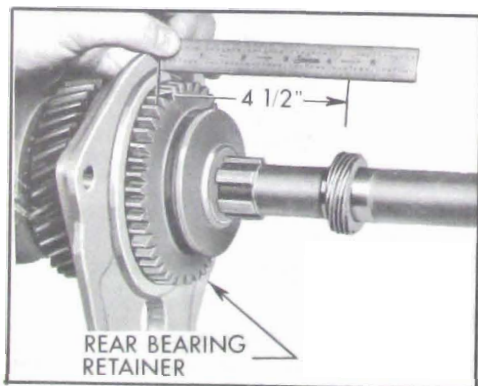

Figure 4-60—Speedometer Gear Location
13. Press speedometer drive gear onto the mainshaft, using a J-8853, press plate. (See Figure 4-59). Position the speedometer gear to get a measurement of 4-1/2" from the center of the gear to the flat surface of the rear bearing retainer. (See Figure 4-60).